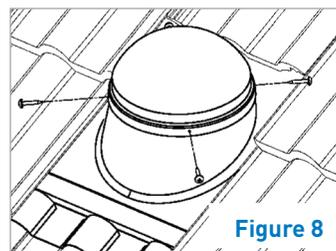

Figure 8
- Fix the dome securely into place with the fixing screws provided into the pilot holes drilled into the mounting unit. Do not overtighten (**Figures 8 & 9**).